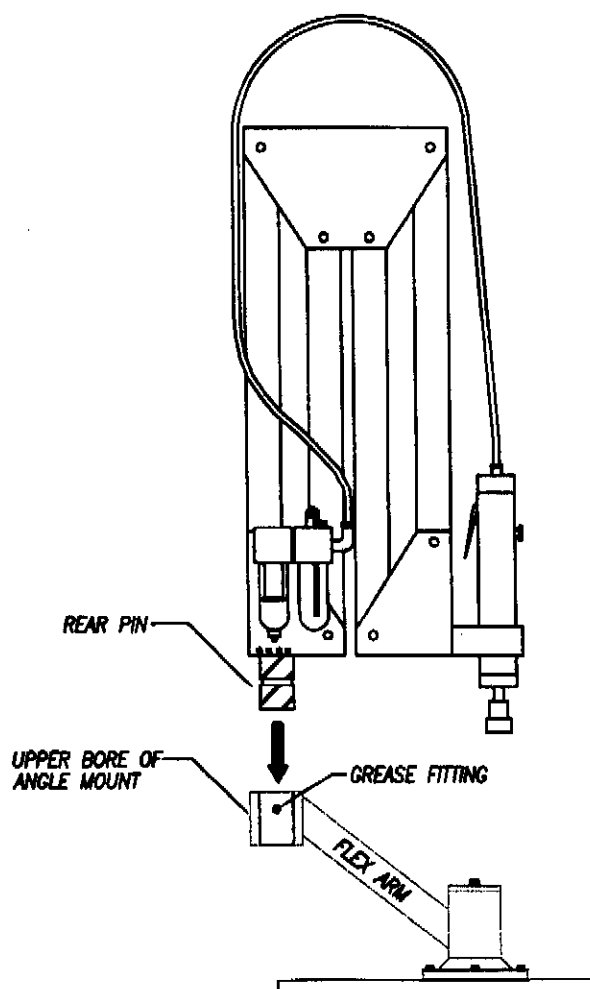

FIGURE 3
- 5) Slide the rear pin into the upper bore of the angle mount (see Figure 3). Note: The rear pin is specifically honed to fit the angle mount sent with the unit (use care when inserting the unit). The FlexArm angle mounts should not be interchanged.